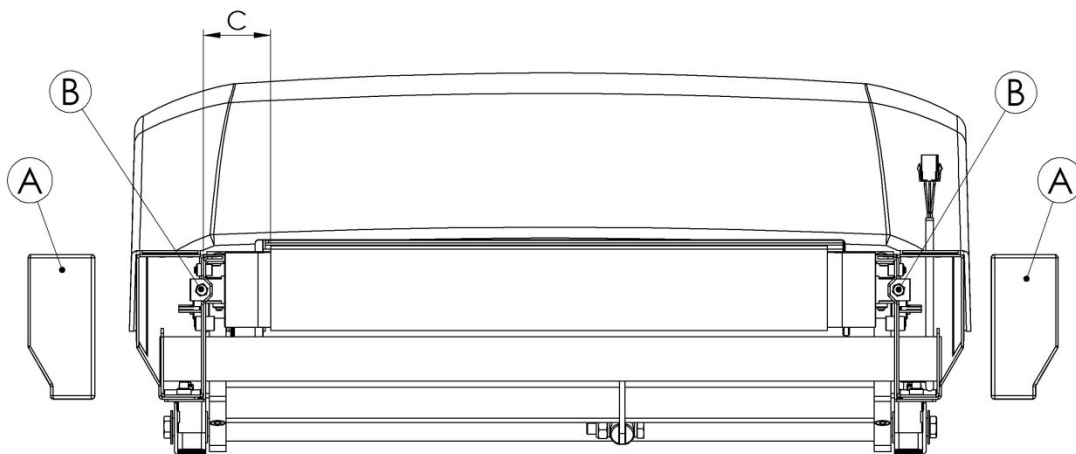

Figure. 1
9. If the belt runs towards the left side, as viewed from the rear of the treadmill, adjust the left bolt, (figure 1, B), viewed from the rear end of the belt (using a size 10 socket head screw wrench) a quarter turn clockwise. The belt will now move slowly right. See Figure 5.
If the belt runs towards the right side, as viewed from the rear of the treadmill, adjust the left bolt (figure 1,B), viewed from the rear end of the belt (using a size 10 socket head screw wrench) a quarter turn anti-clockwise. The belt will now slowly move to the left. See Figure 5.
See (figure 1,C). The left edge of the belt of the treadmill should run 62 ± 3 mm from the side measured at left side of the treadmill. This is indicated by (figure 1, C) in Figure 5.